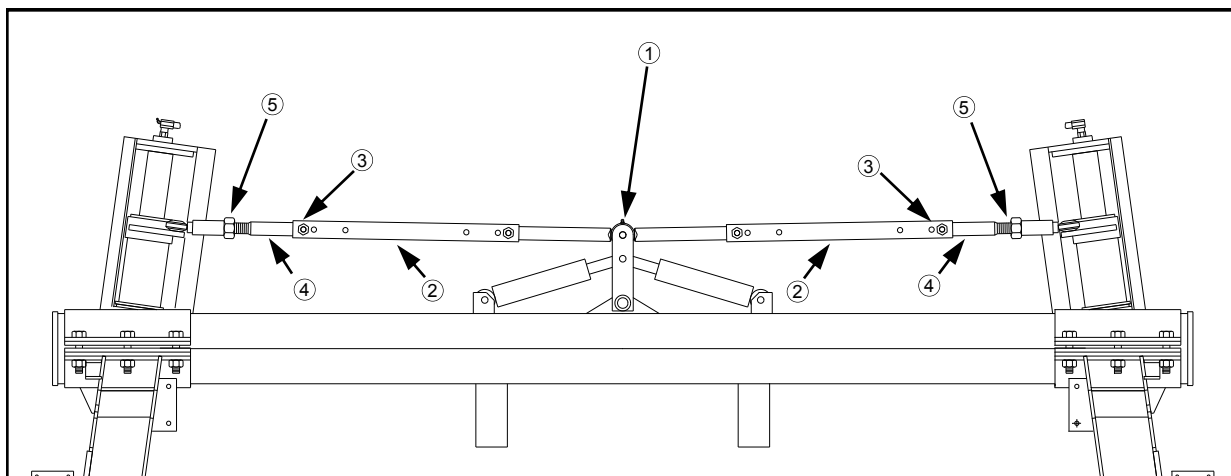

FIG 7.70
2. Turn steering wheel until center steering pivot (fig. 7.70, item 1) is vertical.
3. Loosen tie rod jam nuts (fig. 7.70, item 5).
4. Remove tie rod bolts (fig. 7.70, item 3) on outer end of tie rod tube (fig. 7.70, item 2).
6. Turn inner tie rod (fig. 7.70, item 4) in or out until the bolt hole lines up with the bolt hole in the tie rod tube. Then turn one more full turn **OUT**.